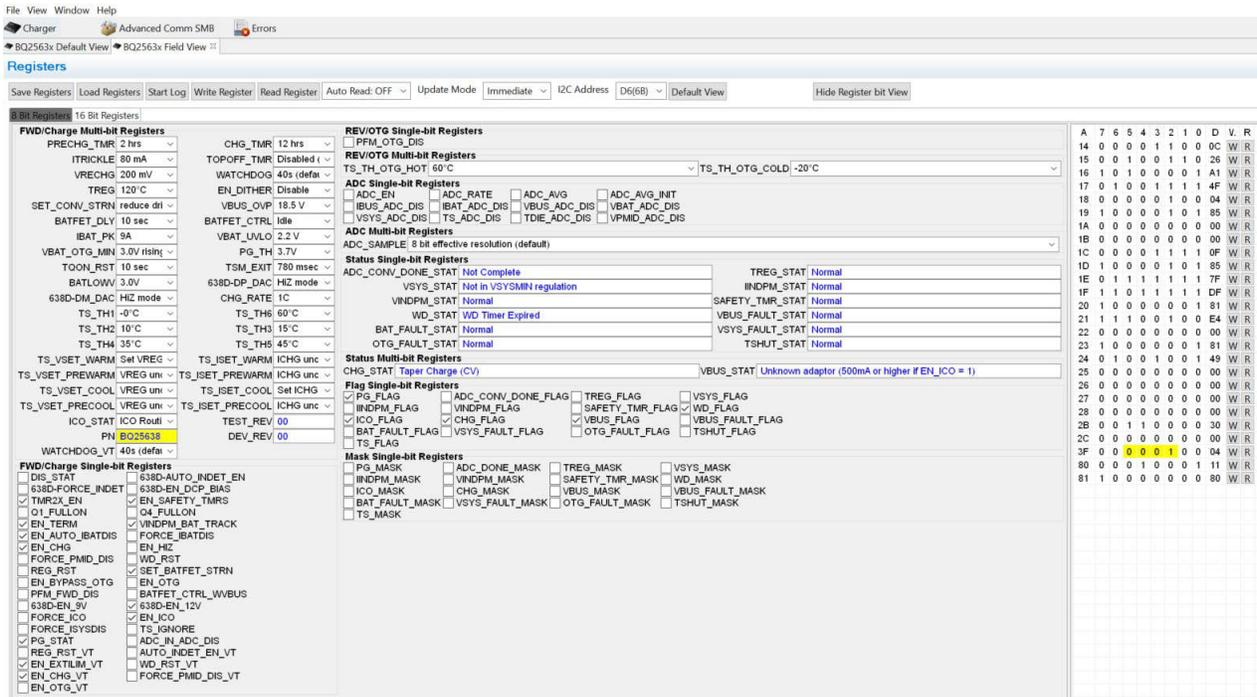

Figure 3-3. Main Window of BQ25638x EVM Software
- Choose **Field View**, on the window that appears, and the main window of the BQ25638x EVM software appears, as shown in Figure 3-3.
2. In the Field View (see Figure 3-3), make the following changes as necessary: